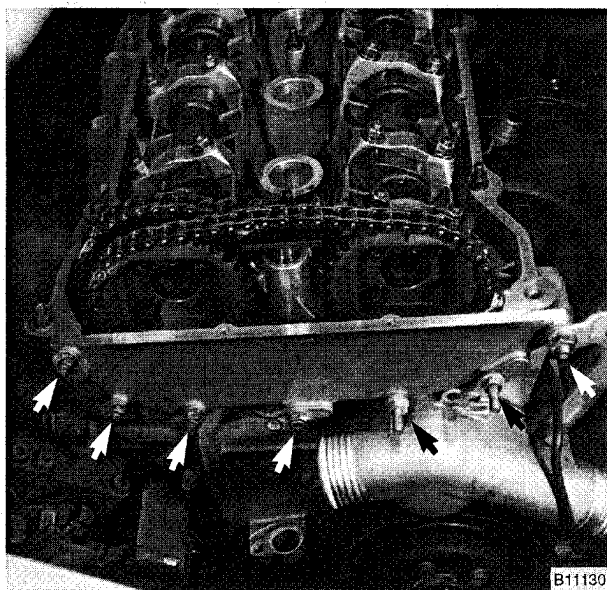

Fig. 19. Upper timing chain cover mounting nuts (arrows) on pre-VANOS engines.
11. On 1992 engines: Remove upper timing chain cover from front of cylinder head. See Fig. 19.